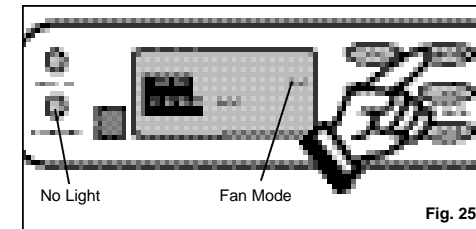

Fig. 25
- Press the **MODE** key until the word **FAN** is displayed in the **LCD** window. *Fig. 25*. Each depression of the **MODE** key will advance to a different mode setting (**Cool-Dry-Heat-Fan**). No indicator mode light is visible during operation of the **FAN** mode (this is normal).